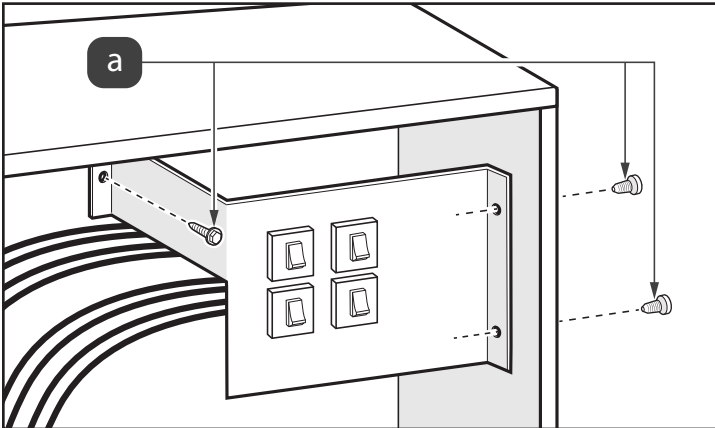

Figure 11. Remove Circuit Breaker Assembly
- 16. Remove the 3 retaining screws from circuit breaker assembly located behind control panel, see Figure 11(a).